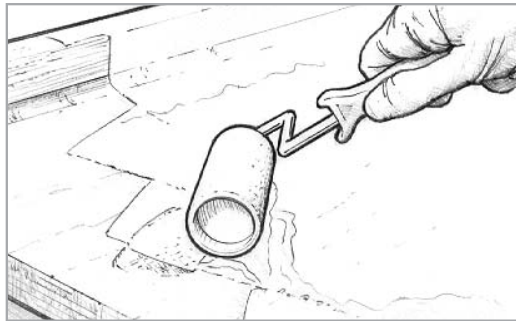

Figure 8-14 Wet out porous surfaces before applying thickened fairing compound.
2. Wet out porous surfaces with unthickened epoxy (*Figure 8-14*).